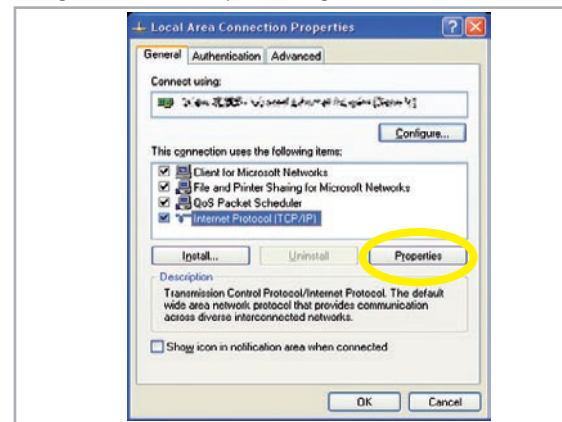

Figure 120
- Double click with the mouse on your connection. The following dialogue window will open (see figure 120).